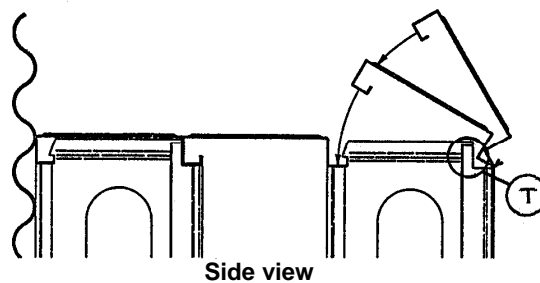

Fig. 7
7. Lay open channel of next floor plank on top of row of supports as shown in Fig. 7. Ensure there is an equal distance from each end of plank to bin wall. Snap plank down into place. Check that all upper tabs of support are between channels of floor plank and are not exposed.